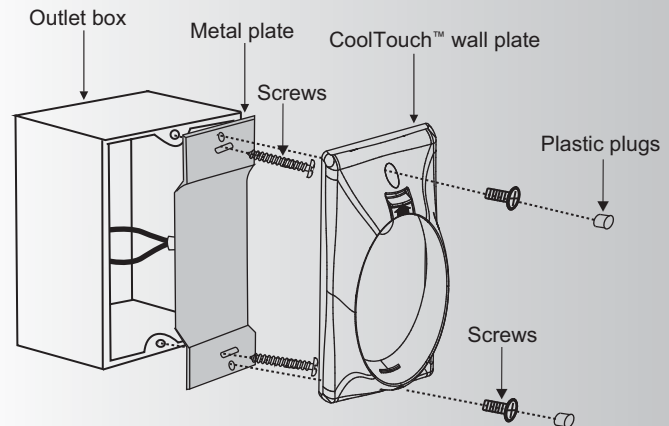

Fig. 28
Step 2. Install the metal plate and CoolTouch™ wall plate to the existing wall outlet box with 4 screws provided. Then place the two plastic plugs into the wall plate. (Fig. 28)